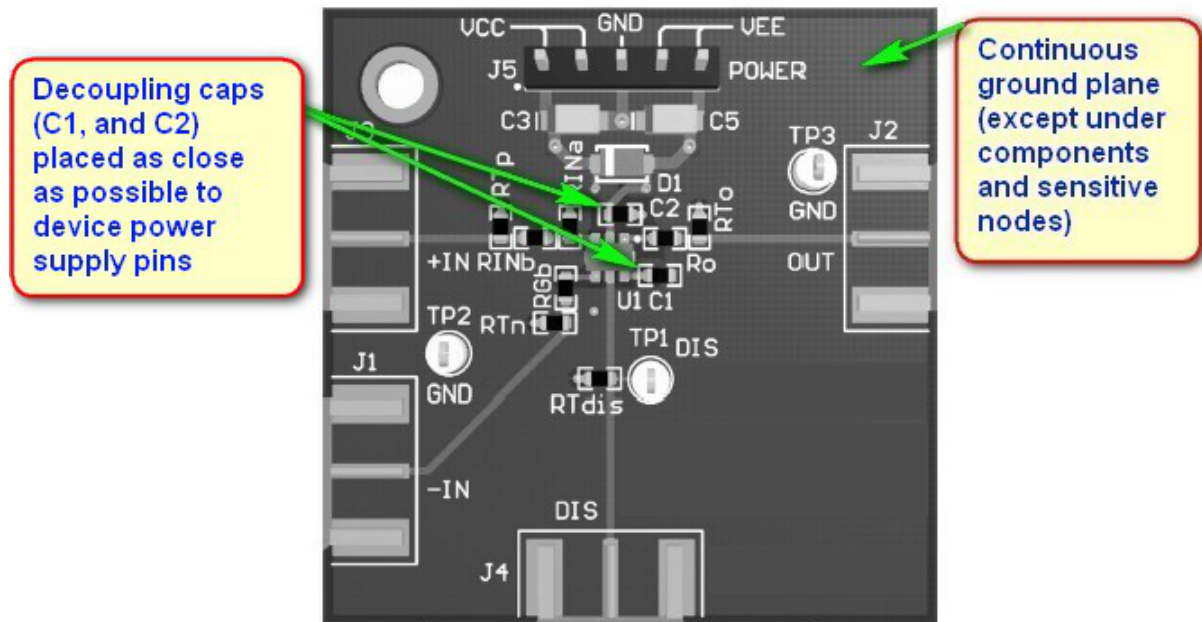

Figure 58. LM8261 Evaluation Board Layer 1
- Continuous ground planes are preferred for signal routing with matched impedance traces for longer runs. However, open up both ground and power planes around the capacitive sensitive input and output device pins as shown in Figure 58. After the signal is sent into a resistor, parasitic capacitance becomes more of a bandlimiting issue and less of a stability issue.
- Use good, high-frequency decoupling capacitors (0.1 μF) on the ground plane at the device power pins as shown in Figure 58. Higher value capacitors (2.2 μF) are required, but may be placed further from the device power pins and shared among devices. For best high-frequency decoupling, consider X2Y supply-decoupling capacitors that offer a much higher self-resonance frequency over standard capacitors.